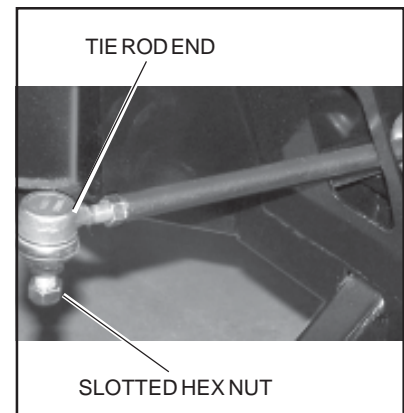

Figure 2
4. Remove both tie rod slotted hex nuts (Figure 2).